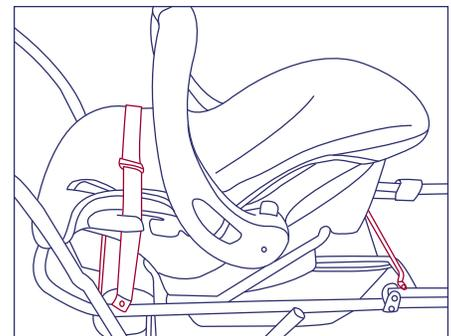

Fig. 4
2. Feed the Car Seat Straps through the auto belt slots on the infant car seat as shown in Figure 4 and snap the two buckles together. The first time you do this, you will need to adjust the length of the strap for a tight fit around the car seat. **FOR SAFE OPERATION, IT IS VERY IMPORTANT THAT THE CAR SEAT STRAP IS ALWAYS TIGHTLY FASTENED OVER THE CAR SEAT.**